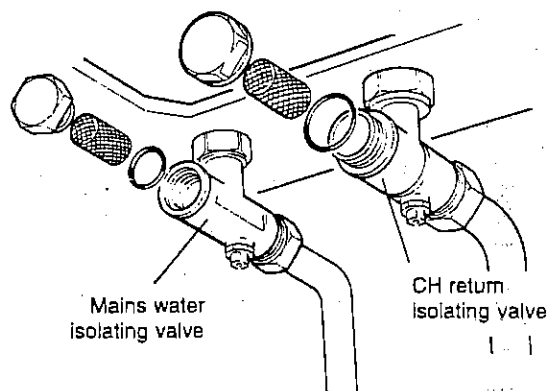

Fig. 34
8.32 MAINS WATER INLET VALVE FILTER - Fig. 34
8.33 HEATING RETURN FILTER - Fig. 34